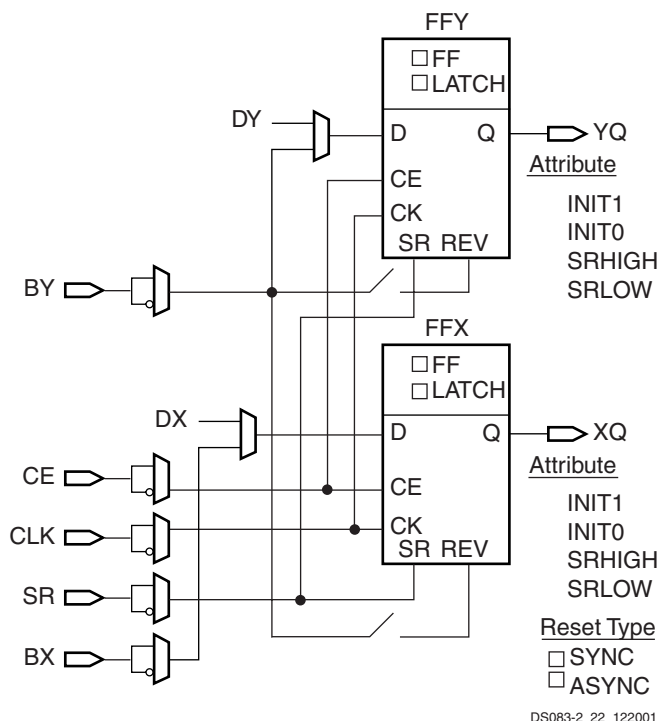

Figure 25: Register / Latch Configuration in a Slice
In addition to clock (CK) and clock enable (CE) signals, each slice has set and reset signals (SR and BY slice inputs). SR forces the storage element into the state specified by the attribute SRHIGH or SRLOW. SRHIGH forces a logic 1 when SR is asserted. SRLOW forces a logic 0. When SR is used, an optional second input (BY) forces the storage element into the opposite state via the REV pin. The reset condition is predominant over the set condition. (See Figure 25.)